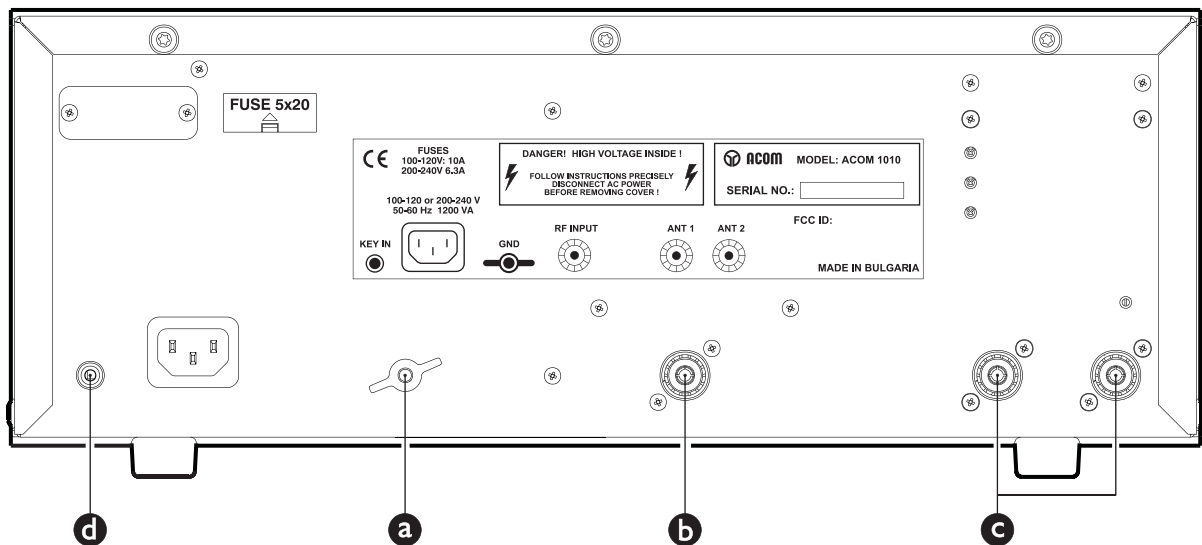

Fig. 2-1 Connections
- a) Connect the station's grounding system to the wing-nut ground stud of the amplifier (on the rear panel, marked **GND** in Fig. 2-1).